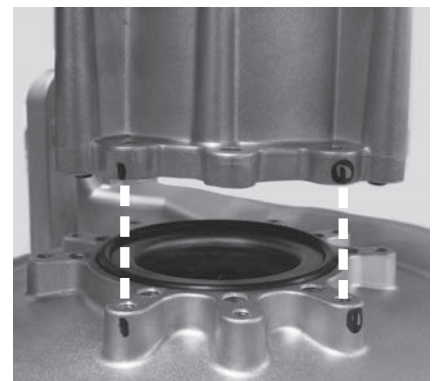

Figure 88 - Proper fan and venturi alignment
16 Install the new fan to the venturi. Reference the orientation mark on the old fan to position the new fan properly as shown in Figure 88. Use the screw hole marks on the venturi to properly install the four (4) screws previously removed in **Step 14**.